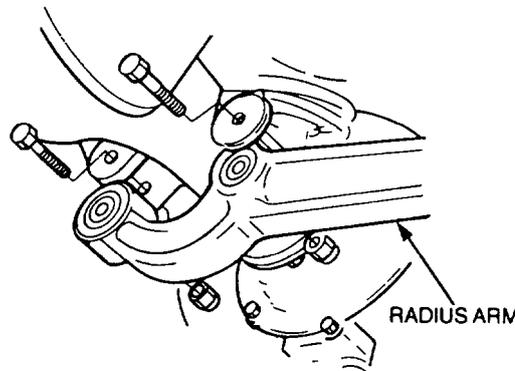

Figure 73 Radius Arm Removal
- k. Remove the locknuts and bolts securing the radius arms to the axle case (Figure 73). Discard the locknuts.